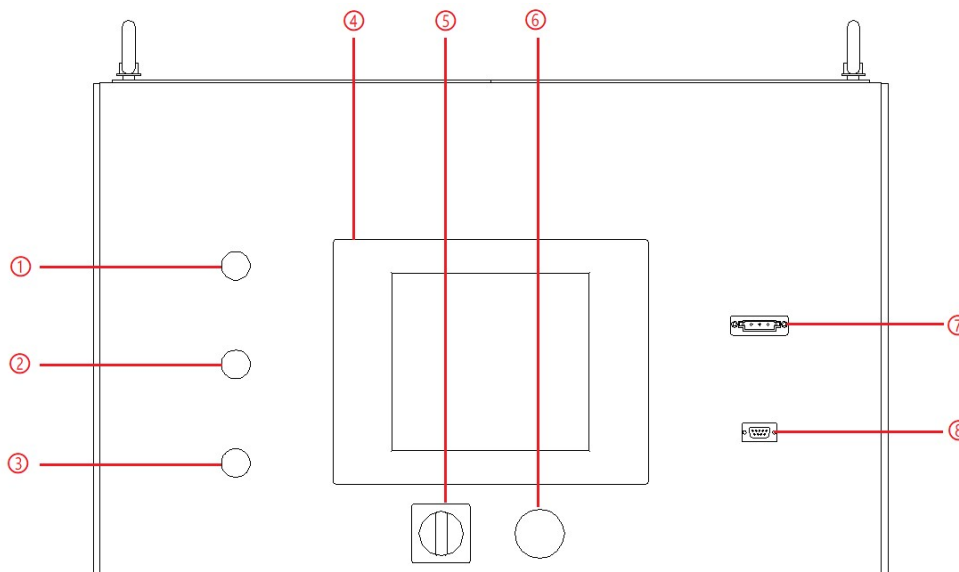
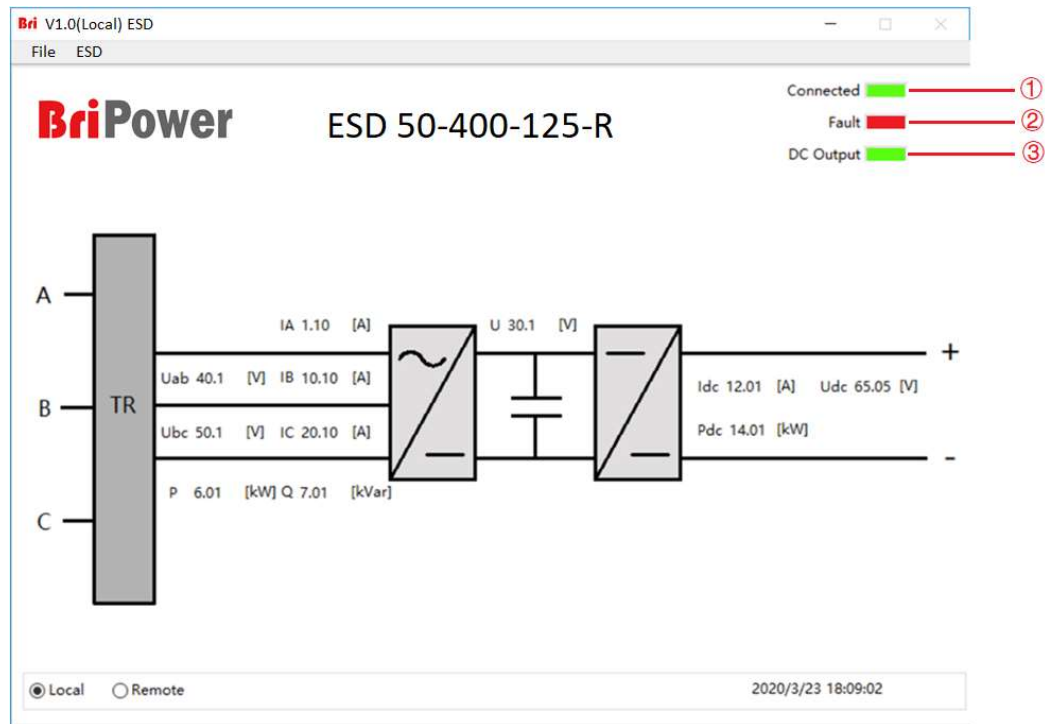

Figure 3-3 Front Panel
Figure 5-1 Main panel
Turn clockwise to close the control switch on the front panel (figure 3-3⑤), the power supply is standby. If the power supply communication connection is normal, the white light is always on (figure 3-3①).
ESD series provides GUI software, which is installed on the front touch screen using the windows OS. (the software can also be installed on the control PC connected to the power supply). A few seconds after the power supply is initialized, the control unit and touch screen begin to work, the power supply is standby. If the power supply communication is normal, the white light (Figure 3-3①) and the “connected” green light (Figure 5-1①) is always on. All functions and parameters can be accessed through the TFT-Touch panel or GUI software to set up and run.